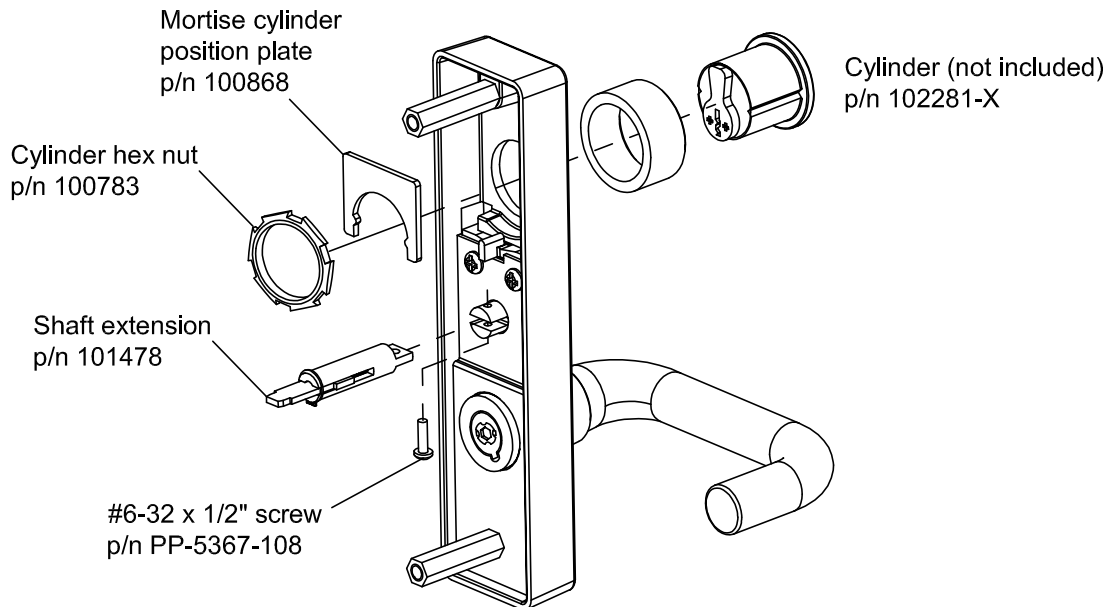

Fig. T8
3. Insert the mortise cylinder (not included). (See Fig T8). Fasten the cylinder with the large hex nut from the hardware kit.